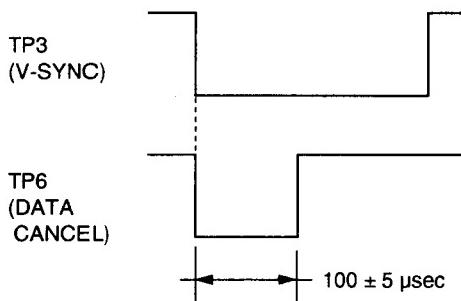

Fig. 5-2-7
- Adjust VR8 so that the Data Cancel Pulse Phase becomes $100 \pm 5 \mu\text{sec}$. as shown in the Fig. 5-2-7.